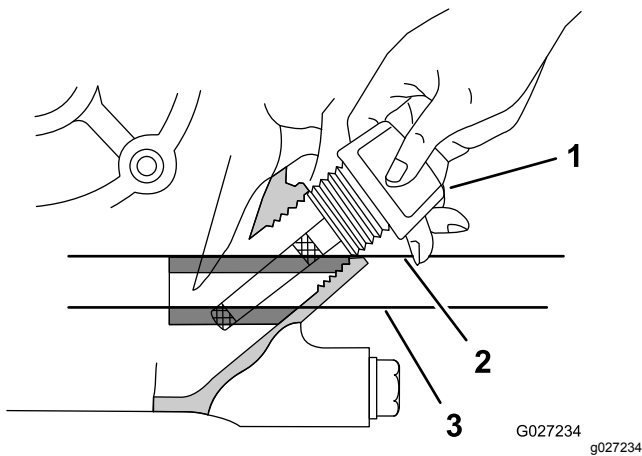

Figure 63
3. Insert the dipstick from the engine as shown in Figure 63.